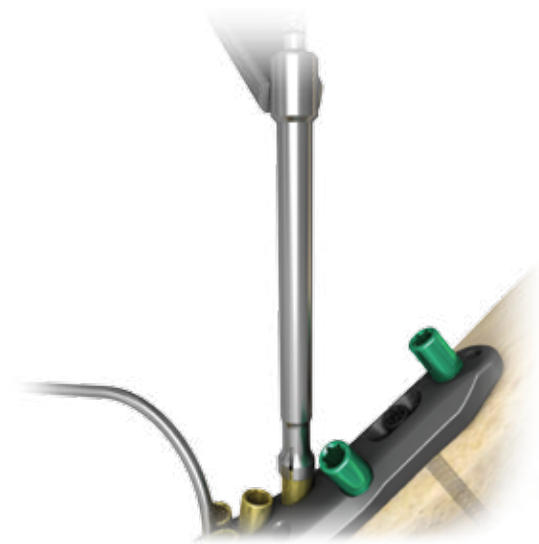

Figure 24
- Before removing the 2.7 mm Drill Bit, read measurement from proximal end of the 2.7 mm Soft Tissue/Drill Guide (Figure 24)